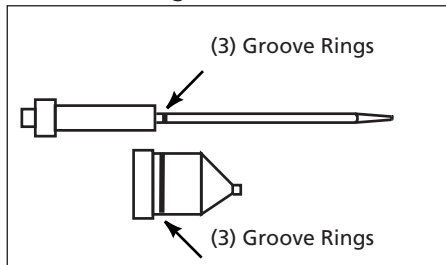

Figure 3 - All Purpose Material Needle And Nozzle Kit
3. The all purpose material needle and nozzle have three groove rings as shown in Figure 3.